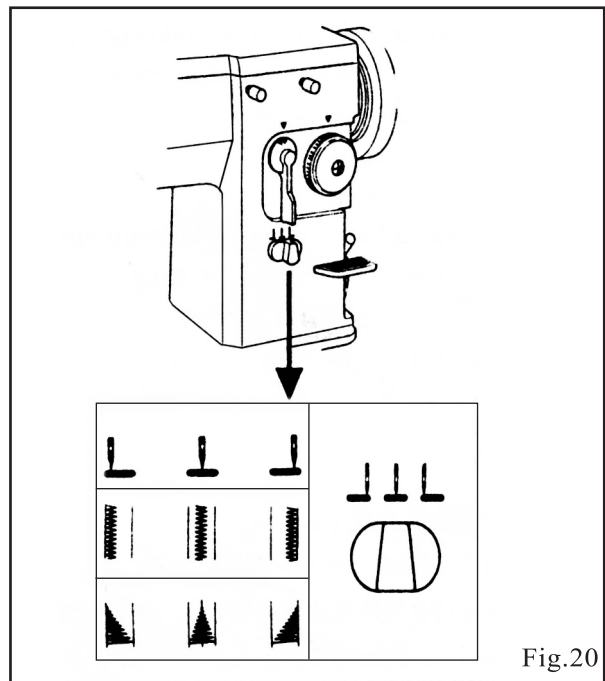

Fig.20
16. ADJUST NEEDLE POSITION (Fig.20)
Left, Center and Right needle position settings are available for placement of both straight and zigzag stitching.(Fig20)